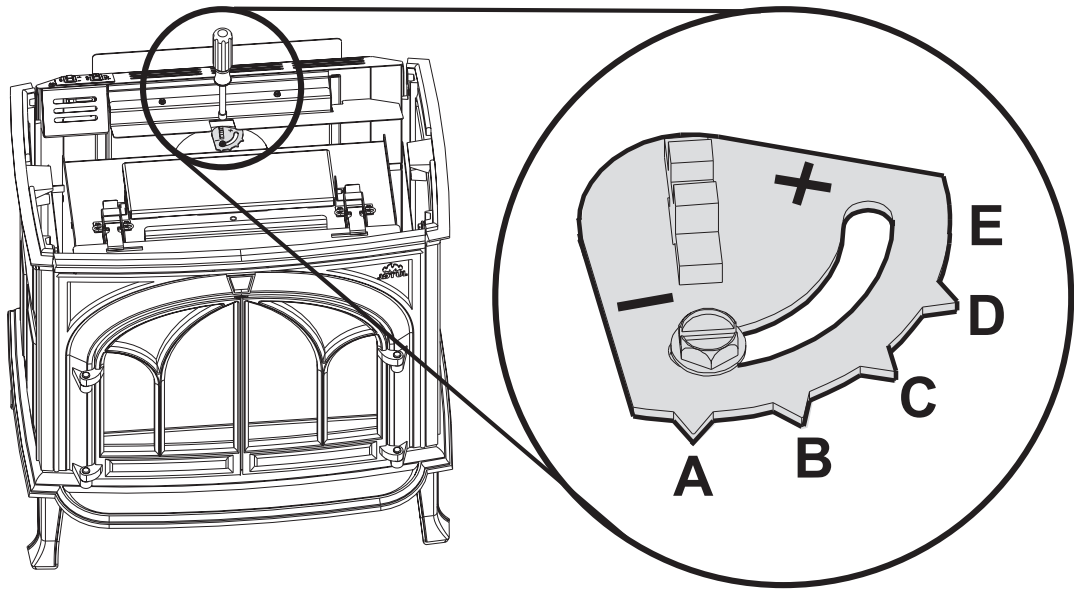
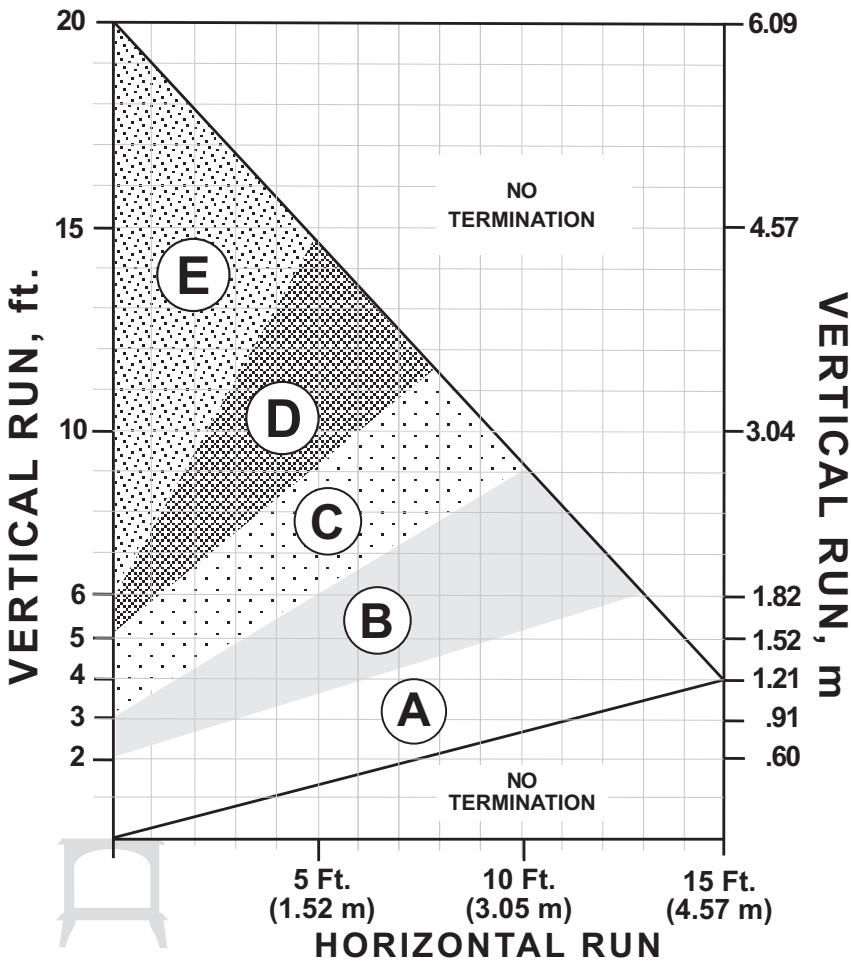
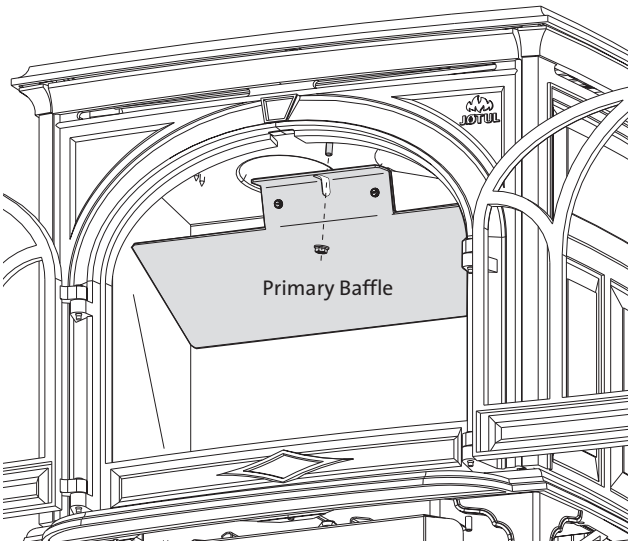

Figure 8. Use 1/4" socket driver to loosen the Exhaust Restrictor dial and adjust as appropriate for your termination zone.
Figure 9. Vent Termination Zone Matrix - NG / LP
Figure 10.
The Exhaust Restrictor is an adjustable shutter located within the firebox exhaust outlet. It is adjusted by moving a pivot pin from the factory-set, fully OPEN (no restriction) to fully CLOSED, (full restriction). The Minus and Plus signs on the dial relate to degrees of restriction, from less to more. See Fig. 8. The five lettered positions correlate to the termination zones (A,B,C,D,E) diagramed in figure 9. Use the diagram to determine the degree of restriction and shutter setting you should use.
3. Locate the restrictor adjustment dial on the top of the exhaust outlet. Use a 1/4" nut driver to loosen the lock nut and pivot the dial to the position appropriate to your termination zone. See figs. 8 and 9.
The circled letter designations in the vent matrix in figure 10 correspond to the Exhaust Restrictor dial settings on the stove. First, determine which vent termination zone is appropriate for your installation, then adjust the restrictor to the corresponding position as shown in figure 9.
- The termination should fall within the shaded areas of the grids depicted in the Vent Matrix, fig. 9, page 9.
- **Exhaust Restriction:** Under normal circumstances, no exhaust restriction is recommended. Set the restriction shutter to **Position A - fully open**, fig. 8, pg. 9.
- Any horizontal termination must fall within the shaded portion of the vent window matrix shown in fig. 9.